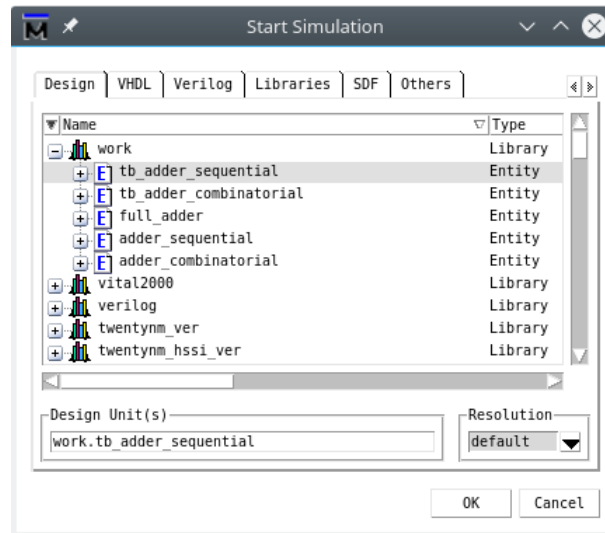

Figure 15: Start simulation
3. Select work > tb_adder_sequential, then press OK (Figure 15).